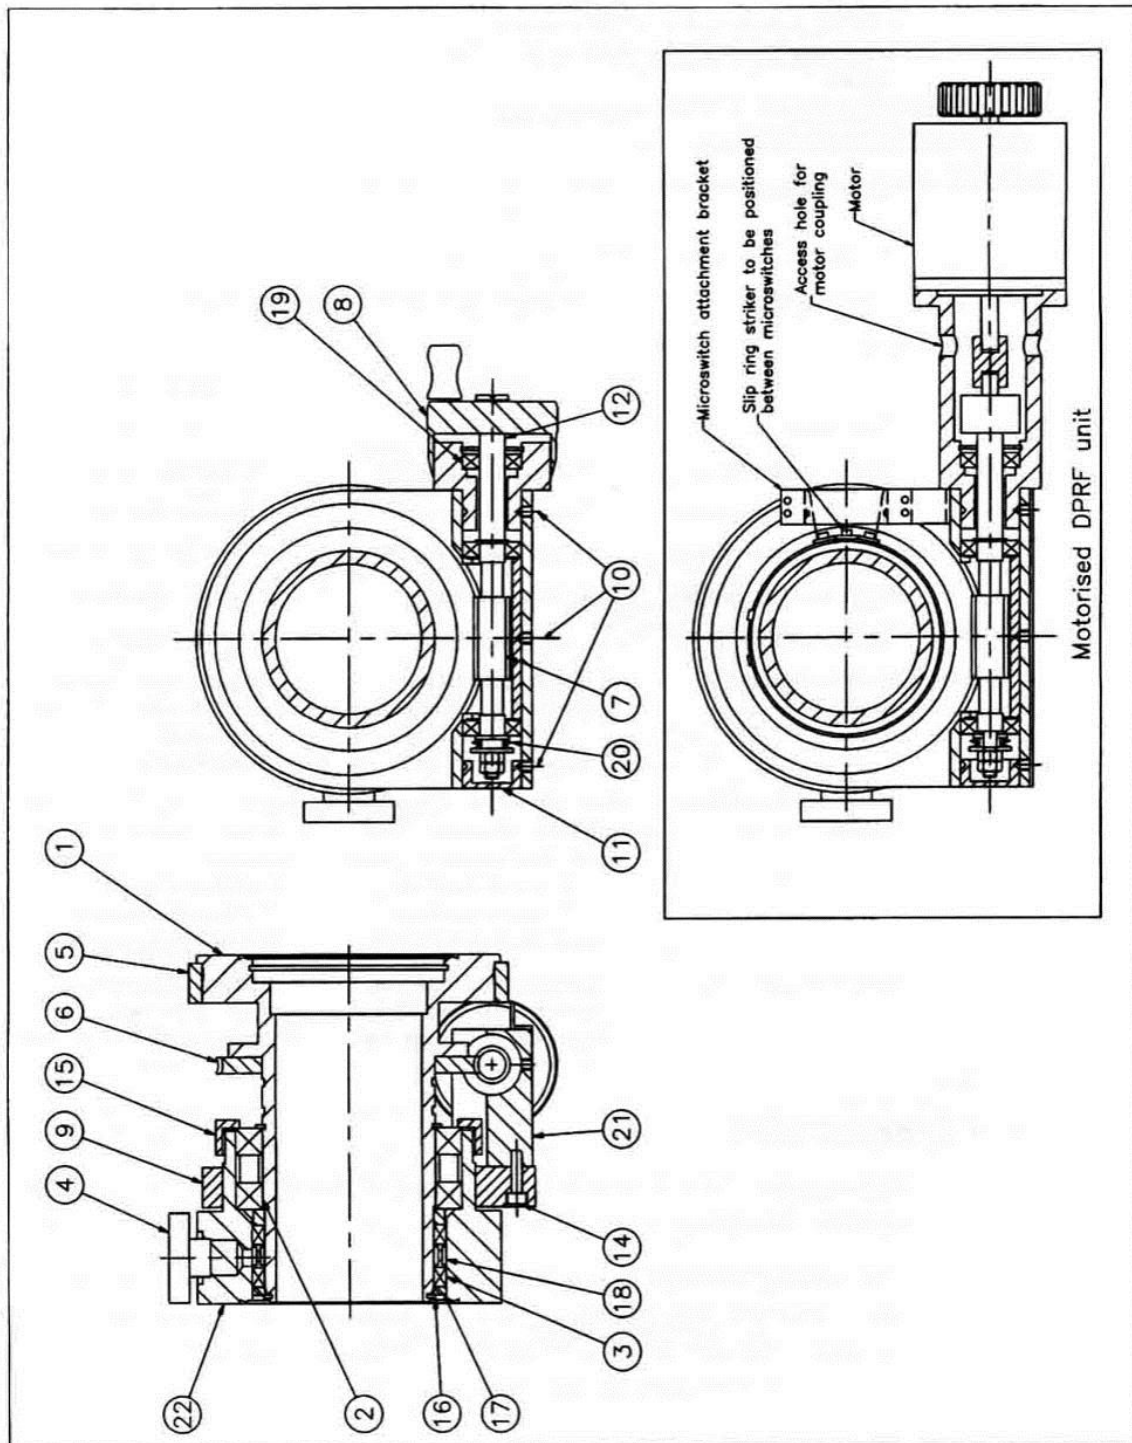

Figure 2 - Construction of the DPRF
The vacuum envelope is stainless steel and all non-demountable joints are welded. The device is shown in figure 2. The rotating housing (1) is supported by two deep-groove ball bearings (2) and is sealed by two separated PTFE 'U' seals (3). The sealing surfaces are polished. The interspace between the 'U' seals is connected to the pumping port (4) which projects radially from the body. The rotating flange is fitted with an engraved index ring (5), which is adjustable to reset the zero position. The precision manual and motorised units have a worm and worm wheel gear system (6) & (7) which drives the rotating housing either by means of a calibrated handwheel (8) or by a stepper motor.
Remove the motor and limit switches where necessary. The motor coupling screws can be accessed through the housing as shown in figure 2. The recommended method of heating is by the convection of free air. The temperature sensor should be mounted in free air adjacent to and at the same level as the rotary feedthrough.
- a. Please refer to Figure 2.
- b. Remove the six screws (14), holding the worm housing to the clamp plate and remove the worm shaft assembly.
- c. Unscrew the large locking ring (15) while holding the lower housing. The lower housing can then be withdrawn from the rotating housing, leaving the supporting bearings and spacers, also the seals and spacers in position on the rotary housing.
- c. Remove with great care the two seals (3) and the ring (18). Inspect the sealing surfaces and ensure that they are completely free from surface damage and/or adherent particles of PTFE. Check that the end faces of the spacer, ring and the housings are smooth and free from any sharp edges or protrusions that could damage the seals. Check that the threads of the locking ring and the lower
f. Scrupulously clean all items and carefully re-assemble all parts including the new seals, ring, spacer and circlip on to the rotating housing, as shown on figure 2. Note the direction of the seal faces. (The open end should face toward the rotating flange end of the DPRF).